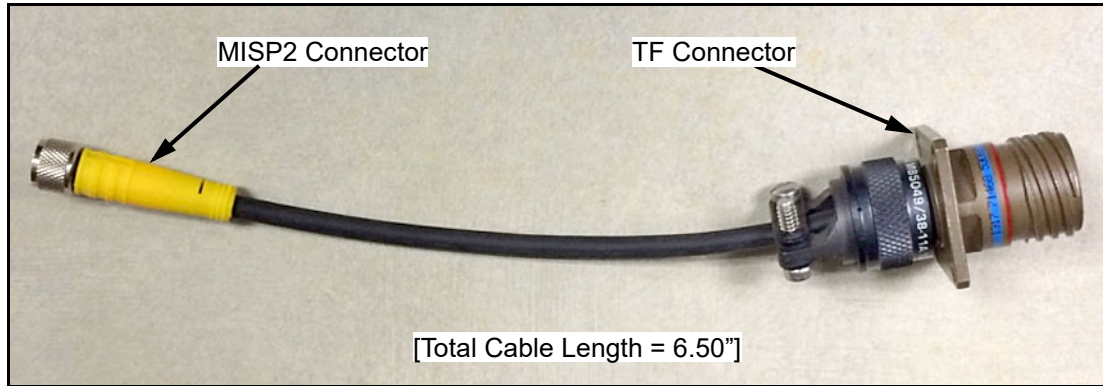

Figure 5: TF-MISP2 Converter Cable
If an existing moisture measurement system uses a **TF-Series** moisture probe, the cable for that probe may be adapted for use with an **MISP2** probe. To retrofit the existing system, refer to *Figure 5* below and complete the following steps:
3. Using Panametrics *adapter cable 704-1362-00*, shown in *Figure 5* above, connect one end of the cable to the **MISP2** probe and connect the other end to the existing **TF-Series** cable connector.